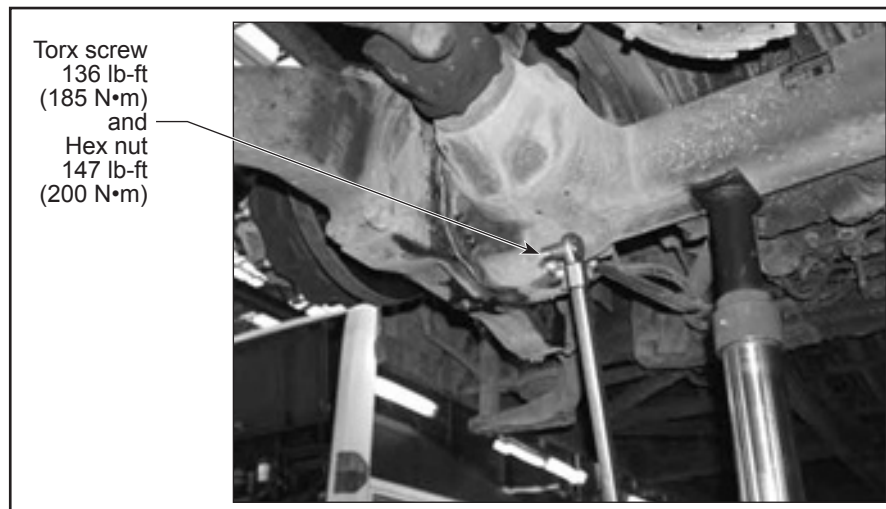

Figure 21 - Portal Drive Mounting
- 2.55. Secure the portal drive in place with the retained Torx screws and hex nuts. See Figure 21.